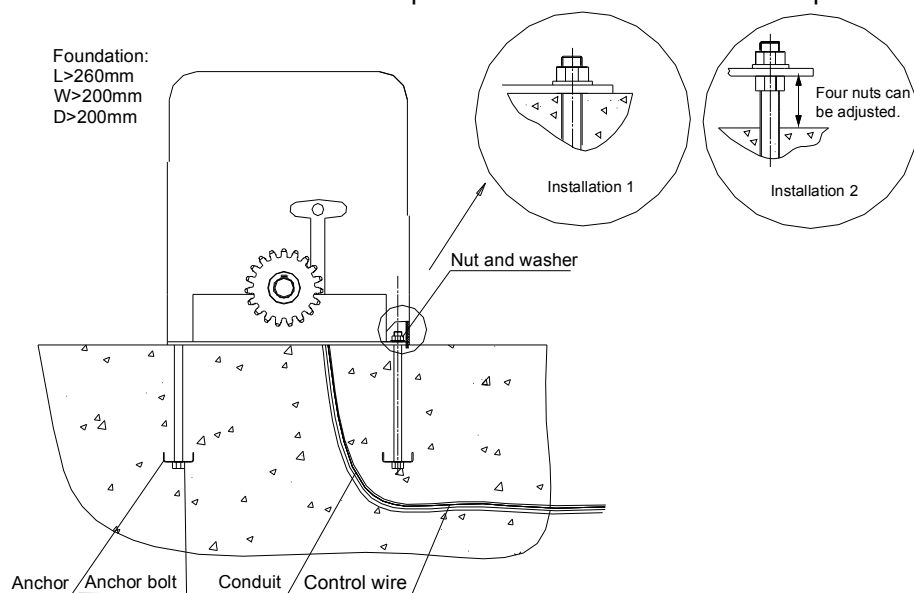

Fig.2
You can use the anchors and anchor bolts that are provided with the operator. These anchors must be set into the concrete when it is poured or you can use wedge anchors to fasten the operator. See Fig.2
In locations where ground freeze is possible, mount the gate operator as shown in Fig.2 installation 1 or installation 2. Check the operator and make sure it is lined up with the gate.
- If the gear cannot mesh the rack, we advise you to install the operator as shown in Fig.2 installation 2 (Four nuts can be adjusted, thus the operator height can be adjusted).